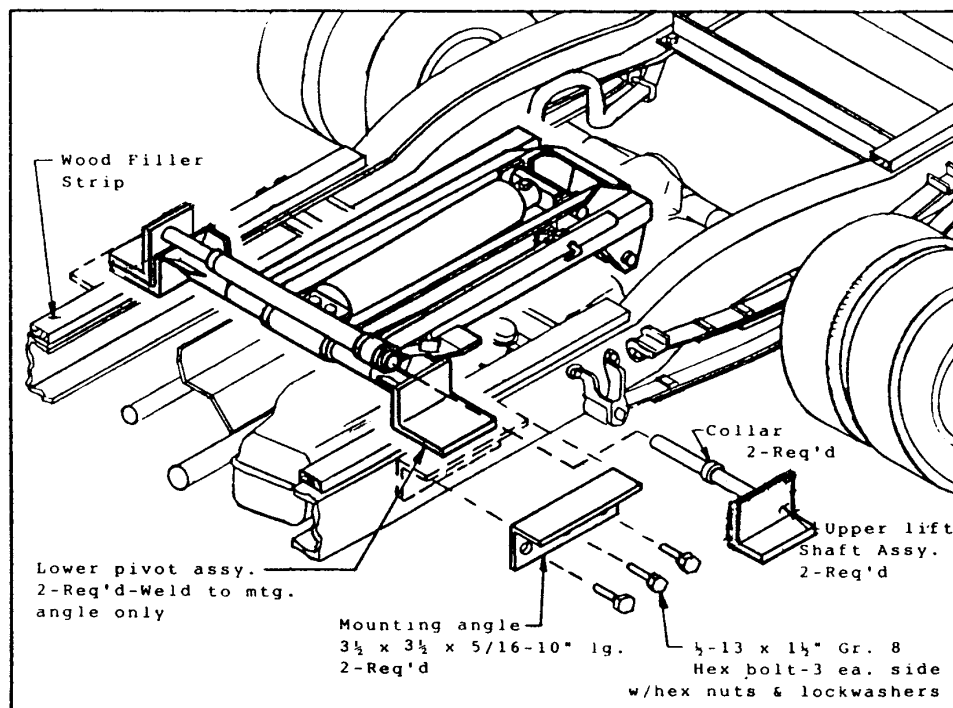

Figure 3 Mounting Angle/Lower Pivot Assembly
4. Locate the hoist on the truck frame, making sure to center and square the hoist to the truck frame. The VC-416/516 hoist is designed to rest on the truck frame as shown in Fig.3 . A section of the hoist extends below the truck frame level, thus the hoist may have to be moved slightly forward or backward to avoid frame crossmembers. The distance between the rear hinge assembly center and the hoist dimension. Table "A", figure 1 refers to dump angles associated with the "M" dimension.
5. After the hoist is positioned, place a mounting angle (Fig. 3 ) under each of the lower pivots and against the truck frame. Clamp securely in place. Drill through the mtg. angle and frame ( $17/32$ " ) and fasten mounting angle with three (3)  $1-1/2$ " hex head grade 8 bolts, lock washers and hex nuts (both sides).
6. With the hoist lower pivot assys. clamped to the mounting angles ( $3-1/2 \times 3-1/2 \times 5/16$  - 10" lg.), weld the lower pivot assys. to the mounting angles. Position and secure the filler strips (wood or steel) to the truck frame (see fig.3 ). The VC-416/516 hoist requires at least  $5-3/4$ " clearance above the truck frame.